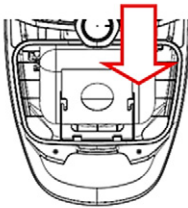

Fig 11
2. **Installing the dust bag:** Insert the dust bag into the bag holder and then put it in the slot cabinet. (Fig 11)